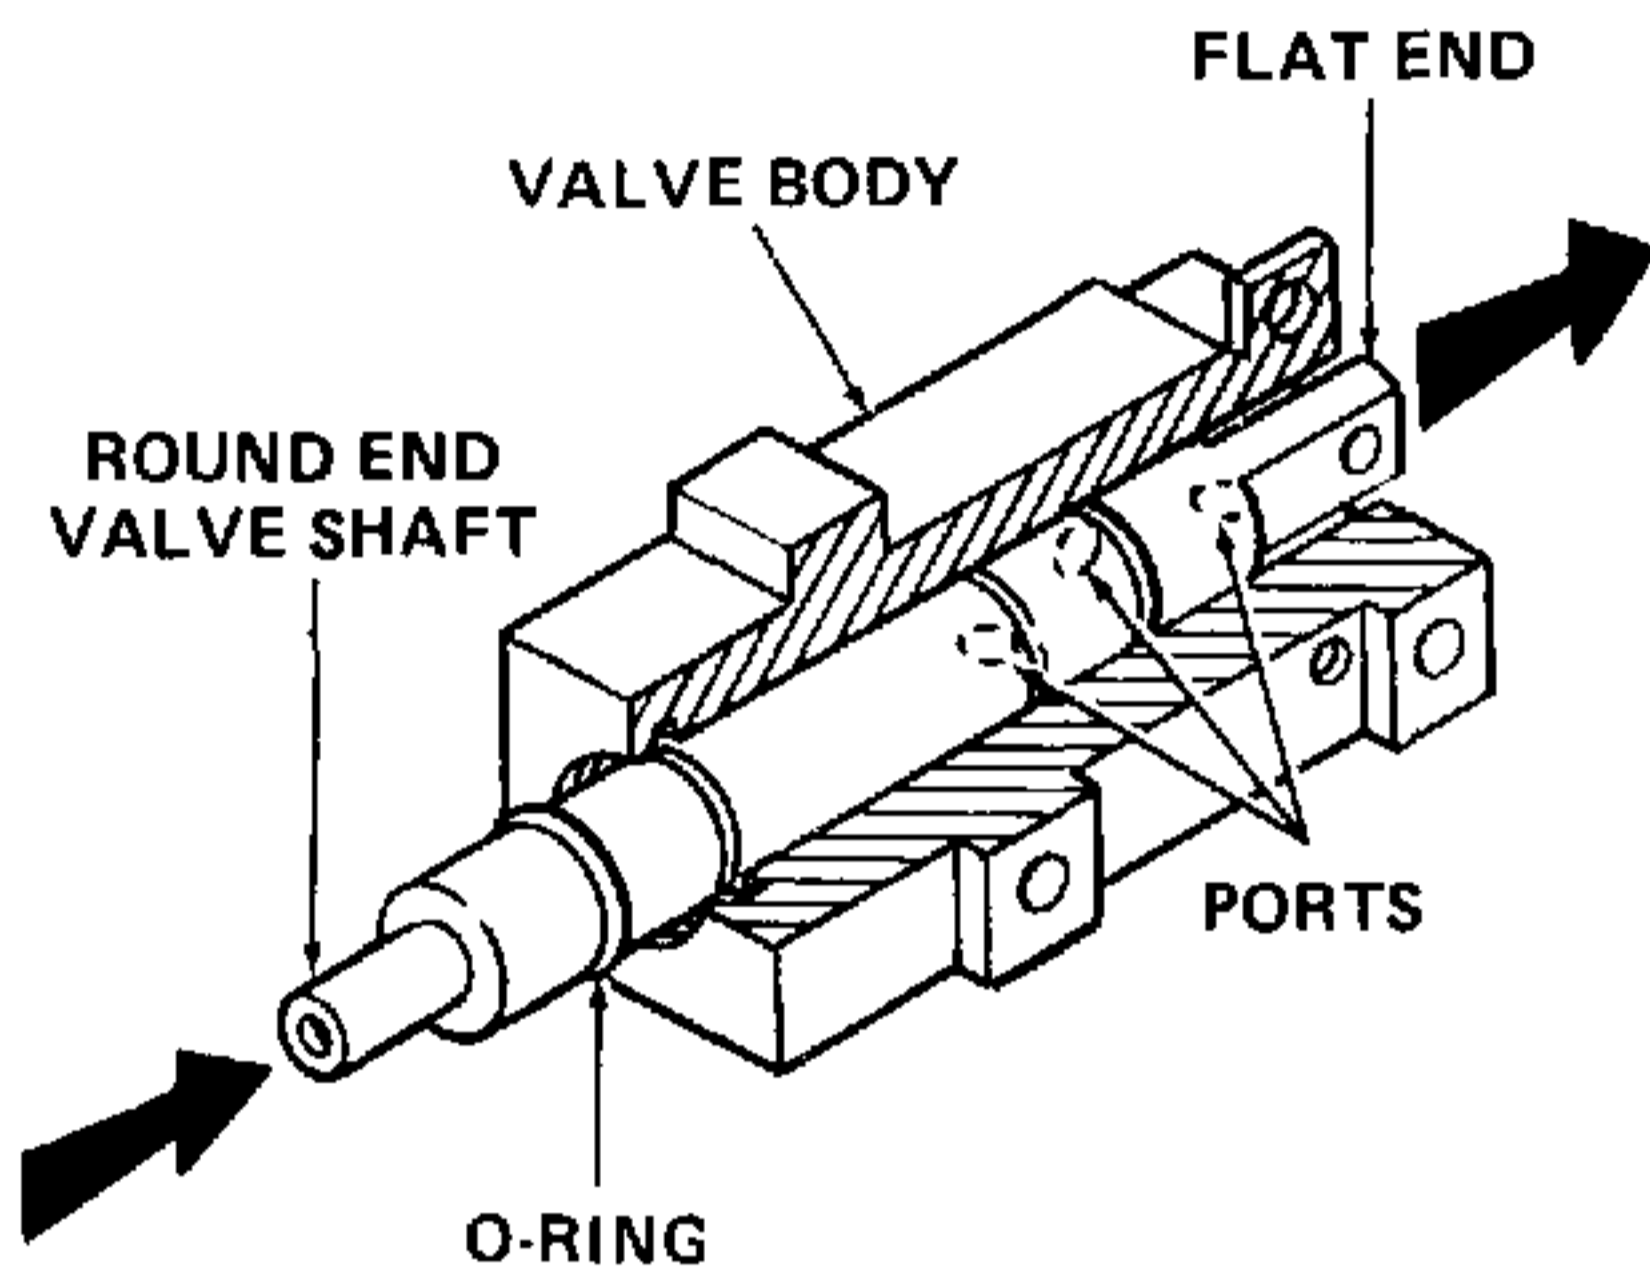

Figure 5-52. Installing Valve Shaft Into Valve Body.
- b. Place one O-ring (32) over round end of valve shaft and into O-ring groove. Place valve shaft, flat end first, halfway into valve body. Refer to Figure 5-52.